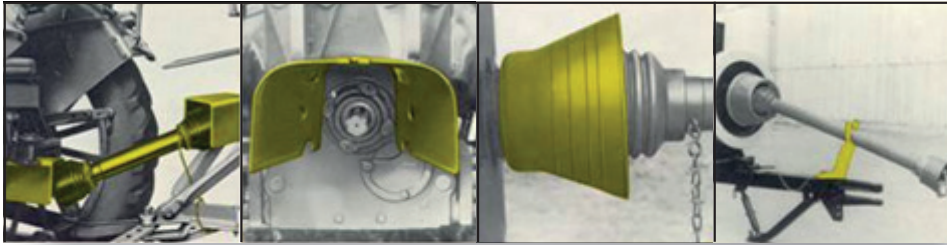

Figure 1: Protective preservations and chain with joint
- Be careful that preservation of protective hose of shaft be installed in a way by covering joints and be secured by means of a chain against turning (See Figure 1).